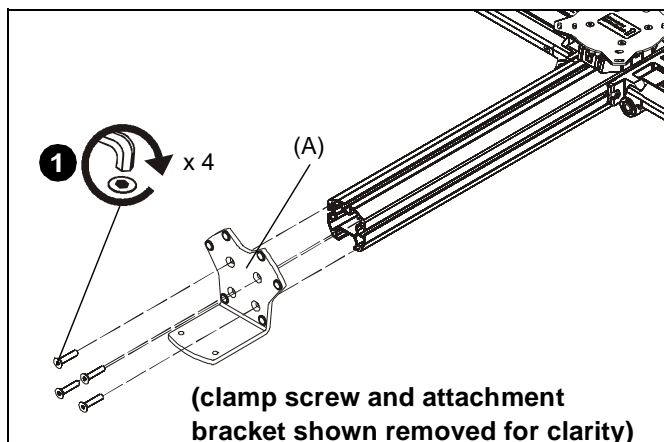

Figure 1
1. Use four 1/4-20 x 1 1/4" button head cap screws from K3 Series mount to secure KRA500 clamp to K3 Series column. (See Figure 1)